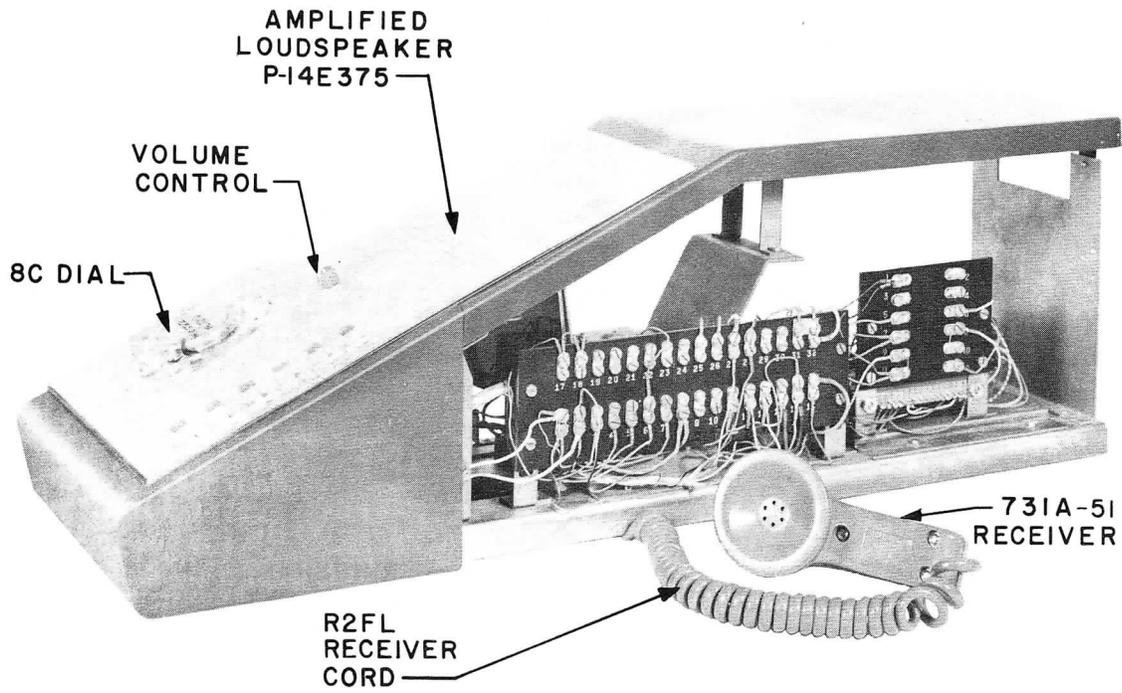

Fig. 5 — 689C Subscriber Set
2.05 This set has the same general appearance as the 689A but is equipped with a loud-speaker and amplifier (Fig. 5).